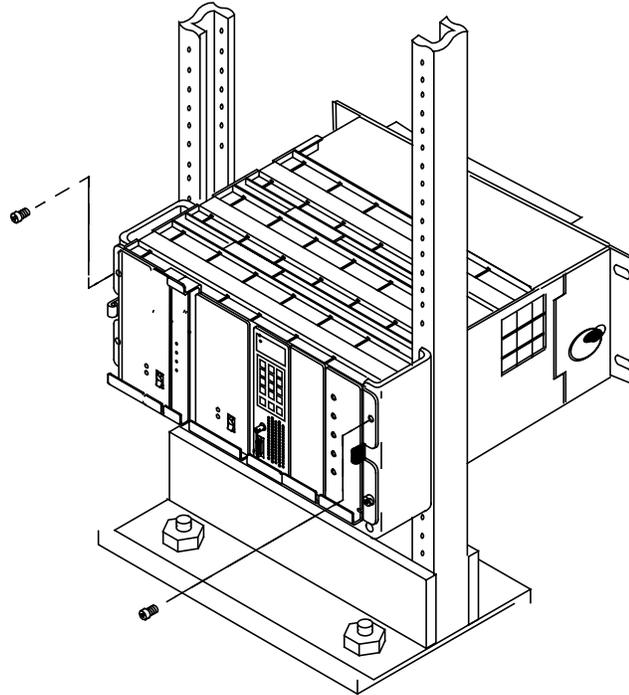

Figure 4-13: Attaching the Screws to the Cabinet
- b. Insert four M6x1.0 tapping screws (two on each side), using a TORX screwdriver and TX 30 bit (see Figure 4-13).